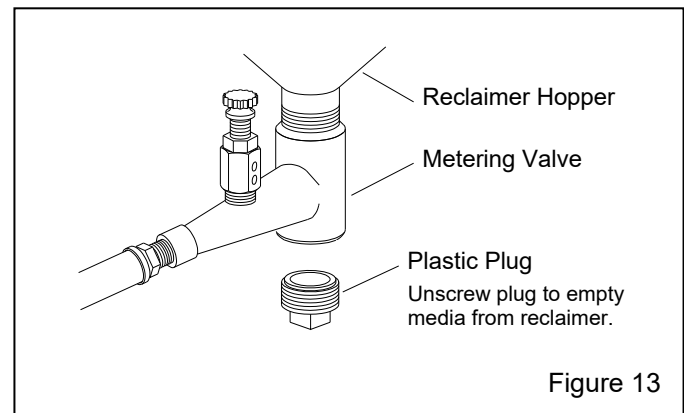

Figure 13
4.3 Media Unloading – Figure 13